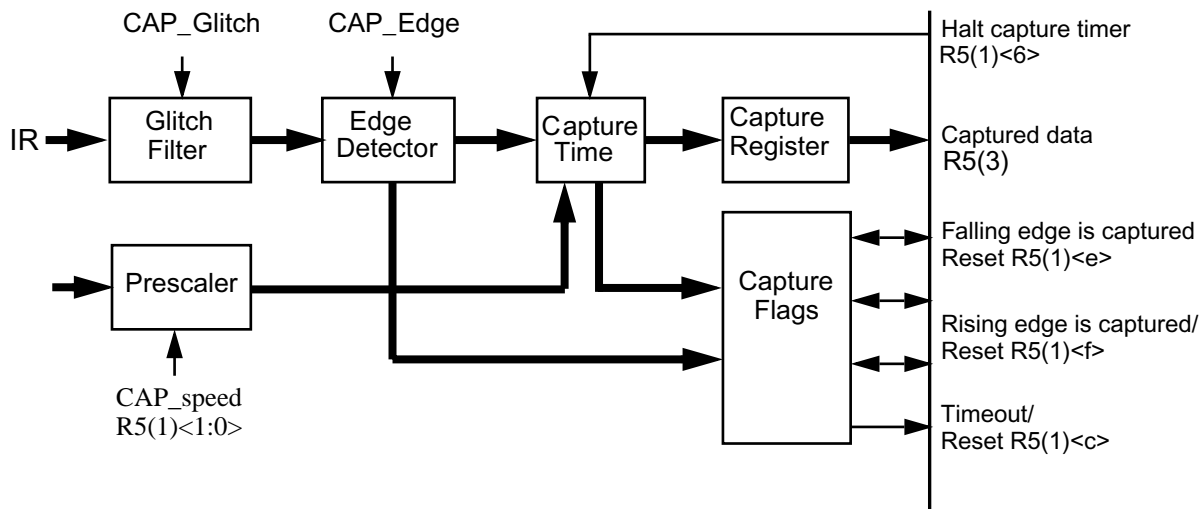

Figure 13 IR Capture Register Block Diagram
The IR capture timer is controlled by External register R5 (1) . Figure 13 is a block diagram of the IR capture register structure.